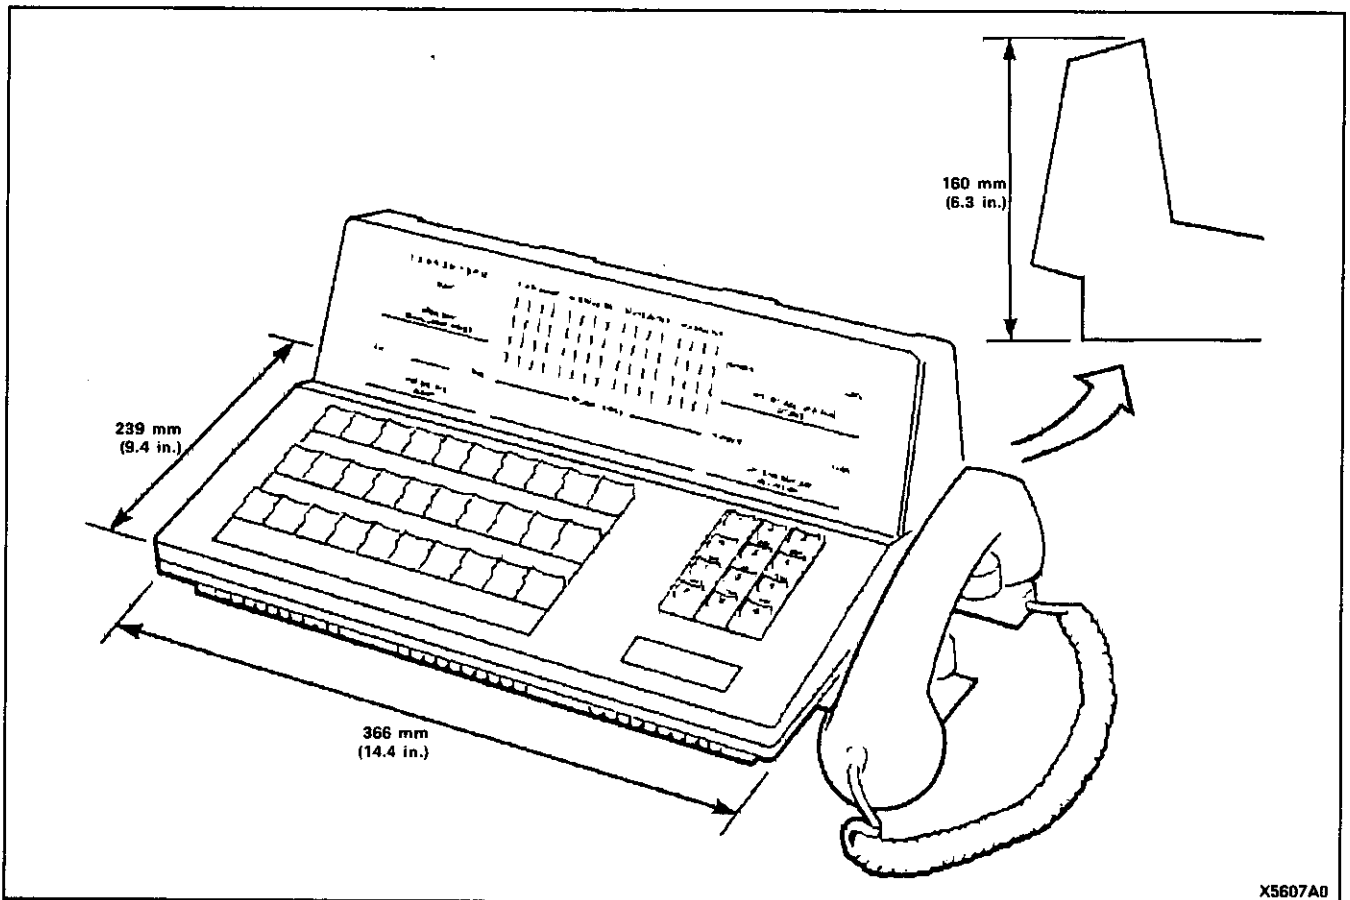

Figure 2-1 SX-20 Attendant Console
2.01 The version of the Attendant Console (refer to Figure 2-1) described in this Section incorporates certain additional features to those features provided by earlier consoles. The console is electrically and physically compatible with Generic 503 of the SX-20 system. Console features are: